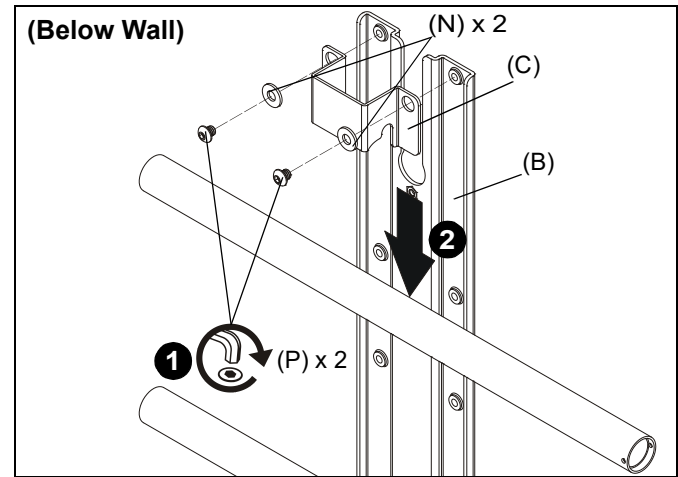

Figure 3
1. Use two 1/4-20 x 1/4" button head cap screws (P) and two large washers (N) to secure shelf bracket (C) to main bracket (B). (See Figure 3)
2. Slide main bracket (B) behind wall mount rails until shelf bracket (C) rests on top of wall mount rail. (See Figure 3)